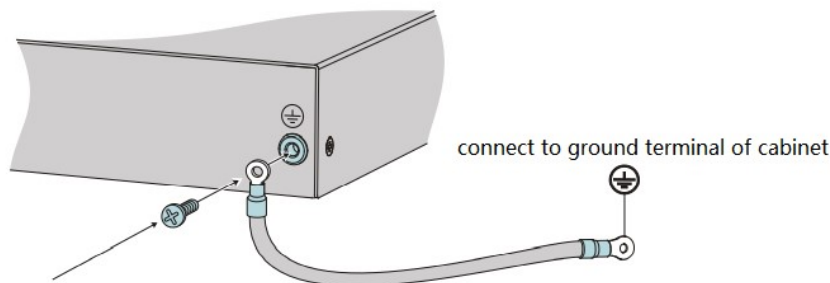

Figure 8: Grounding the device
- Install the grounding screw at the rear of the device to the protective conductor, refer to figure 8, below.